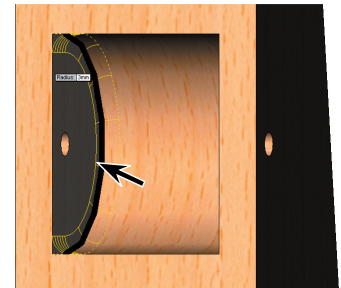

Fig. 17
Step 3. Use the left arrow on the keyboard to rotate view as shown in **Fig. 17**.
Step 6. Click the inside arc edge, **Fig. 17**.